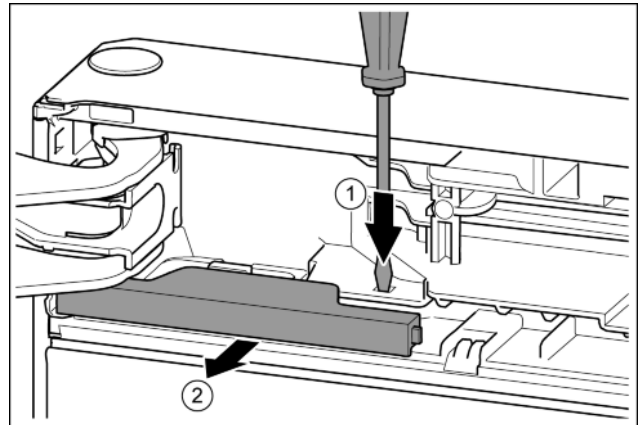

Fig. 10
- Press the tab with the slotted screwdriver. Fig. 10 (1)
- Pull cover out of the catch mechanism. Fig. 10 (2)